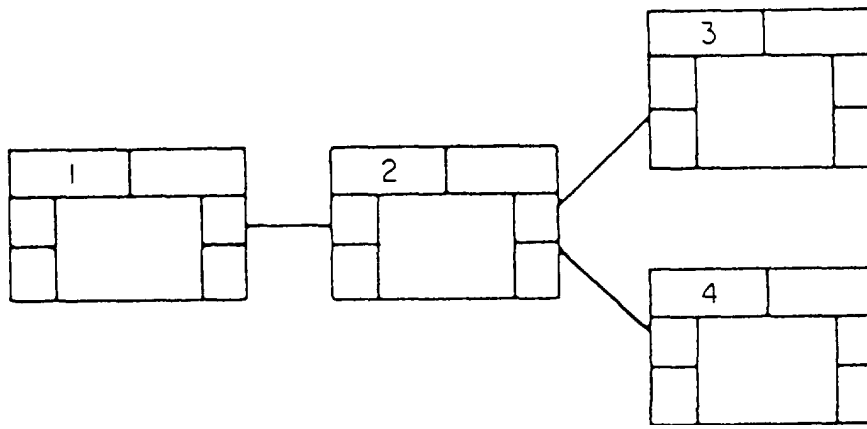

Figure 9-24.—Dependent activity.
**DEPENDENT ACTIVITY.**— A dependent activity is an activity that is dependent upon one or more preceding activities being completed before it can start. The relationship in figure 9-24 states that the start of Activity 2 is dependent upon the finish of Activity 1.
Earlier we mentioned a “burst” of activities. A burst is similar to a merge. A burst exists when two or more activities cannot be started until a third activity is completed. In figure 9-24, when Activity 2 is finished, Activities 3 and 4 may start.